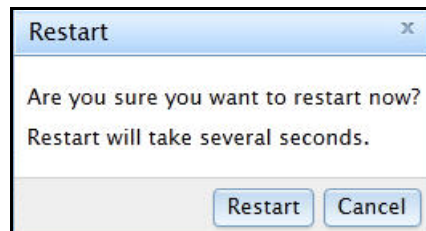

Figure 38. Restart Confirmation Box
11. In the Restart confirmation box (Figure 38), click Restart. The Satellite Router restarts and loads the new configuration.